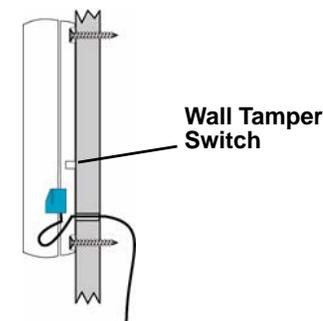

Figure 3 Mount the Transmitter to the Wall
2. Route the external wiring through the wall, as shown in Figure 3.